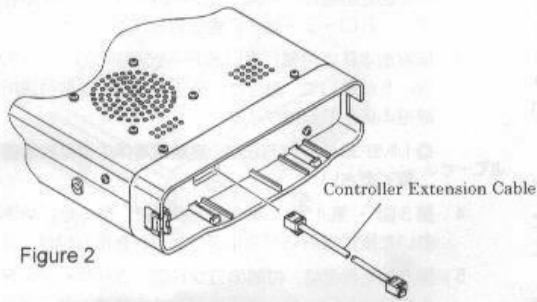

Figure 2
4. Referring to Figure 2, insert the plug of the Controller